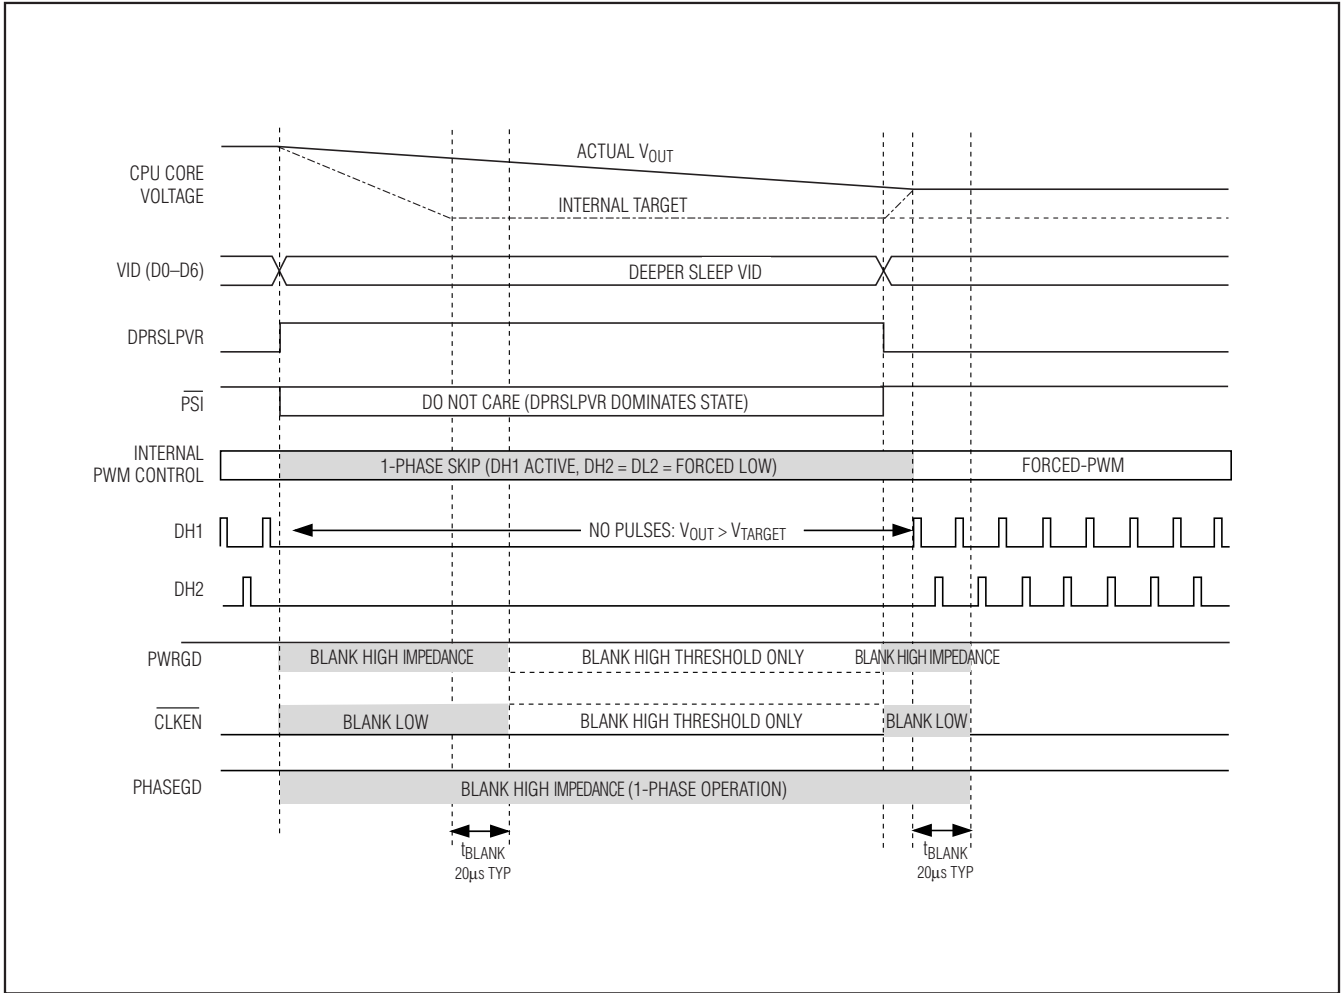

Figure 4. C4E (C4 Early Exit) Transition
When DPRSLPVR goes high, the MAX17582 immediately disables phase 2 (DH2 and DL2 forced low), blanks PHASEGD high impedance, and enters pulse-skipping operation (see Figures 4 and 5). If the VIDs are set to a lower voltage setting, the output drops at a rate determined by the load and the output capacitance. The internal target still ramps as before, and PWRGD remains blanked high impedance until 20 $\mu\text{s}$  after the output voltage reaches the internal target.
- **Fast C4E Deeper Sleep Exit:** When exiting deeper sleep (DPRSLPVR pulled low) while the output voltage still exceeds the deeper sleep voltage, the MAX17582 quickly slews (50mV/ $\mu\text{s}$  min regardless of  $R_{\text{TIME}}$  setting) the internal target voltage to the DAC code provided by the processor as long as the output voltage is above the new target. The controller remains in skip mode until the output voltage equals the internal target. Once the internal target reaches the output voltage, phase 2 is enabled. The controller blanks PWRGD, PHASEGD, and  $\overline{\text{CLKEN}}$  until 20 $\mu\text{s}$  after the transition is completed. See Figure 4.